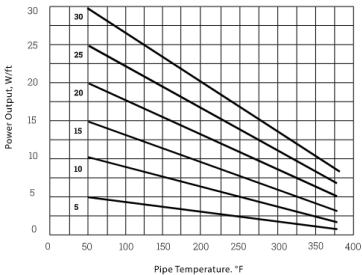

Figure 3-HXR
- For Plastic Pipes—Use Figure 3 by finding the intersection of the calculated heat loss, Q_F , and pipe maintenance temperature, T_M .